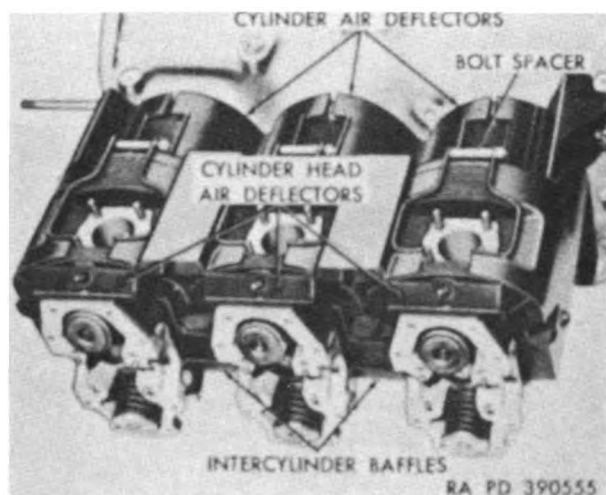

Figure 51. *Cylinder air deflectors and baffles—installed view.*
- (1) Lift six cylinder head air deflectors (fig. 51) from cylinder heads.
- (2) Remove four hex-head bolts and lock washers securing four intercylinder baffles (fig. 51) to flywheel side of Nos. 2 and 4 cylinder heads, and to acces-